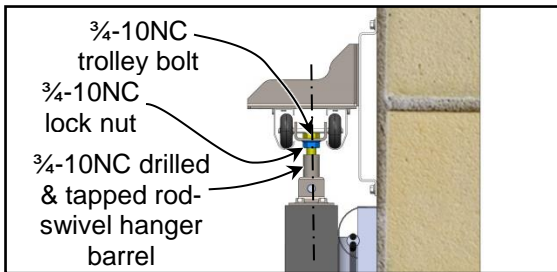

Figure 37
7. After each door panel is leveled by adjusting the trolley bolts – the lower jamb nut must be spun up to the bottom of the trolley carriage and torqued to 15 Ft-lbs. Failure to do this will allow the trolley bolt to spin (loosen) which lowers the door and eventually causes the door to drag and excessive sweep seal wear. (See Figure 37)